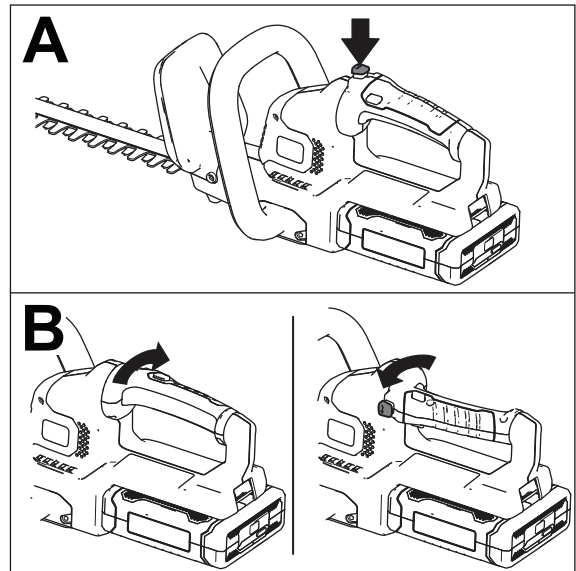

Figure 5
1. Press and hold the rotational lock button (A of Figure 5).
2. Rotate the handle 90° to the right or left depending on desired cutting direction, then release the rotational lock button to lock the handle in the desired position (B of Figure 5).